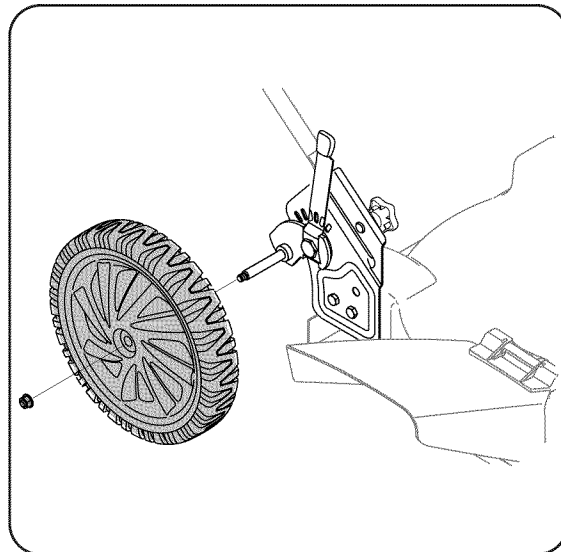

Figure 3-6
6. If not already on the unit, install rear wheels as follows in Figure 3-6: